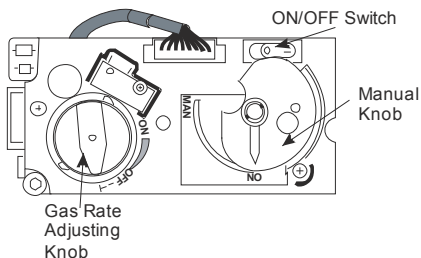

Figure 15 – Total Control Gas Valve
2. Simultaneously press and hold the  (red circle) and  (large flame) buttons until a short acoustic signal confirms the start sequence has begun, then release the buttons (see **Figure 15**).